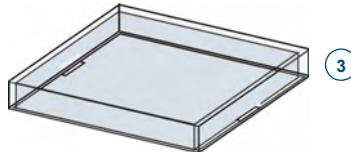

FIG. 5 Placing a Button Label inside a Key Cap
3. Install the Key Cap on the pushbutton (FIG. 5):